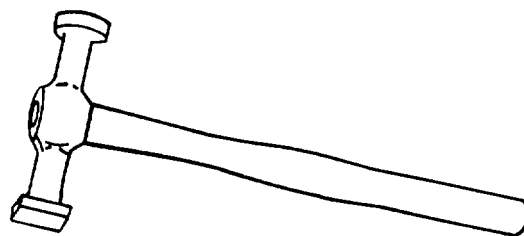

Figure 4-2. Body Hammer
(2) Body hammer. A body hammer, shown in figure 4-2, is used to straighten and form metal.